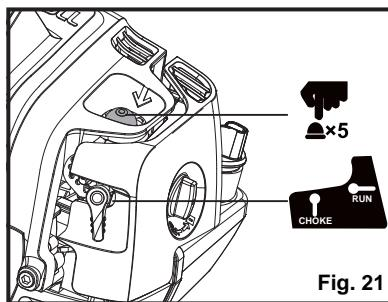

Fig. 21
- Turn the choke lever to the CHOKE position (Fig. 21).